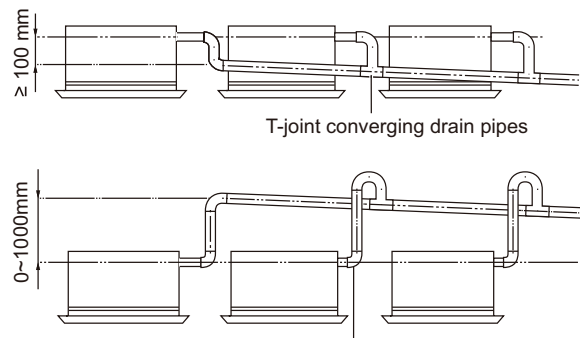

Fig.15
3. When unifying multiple drain pipes, install the pipes as Fig.15. Select converging drain pipes whose gauge is suitable for the operating capacity of the unit.(take the cassette type unit for example)